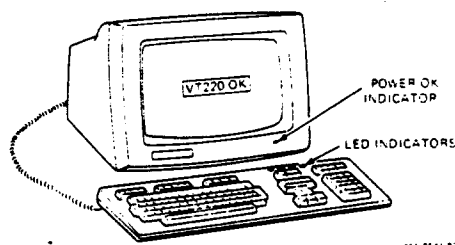

Figure 1-1 Indication of Successful Power-Up Self-Test
1. The keyboard LED indicators (Figure 1-1) are off.
3. A VT220 OK message enclosed by a rectangle appears on the screen (Figure 1-1). This message disappears from the screen (1) the moment any character except XON is received by your terminal, (2) if you press the Set-Up key, or (3) if you let 30 minutes elapse.